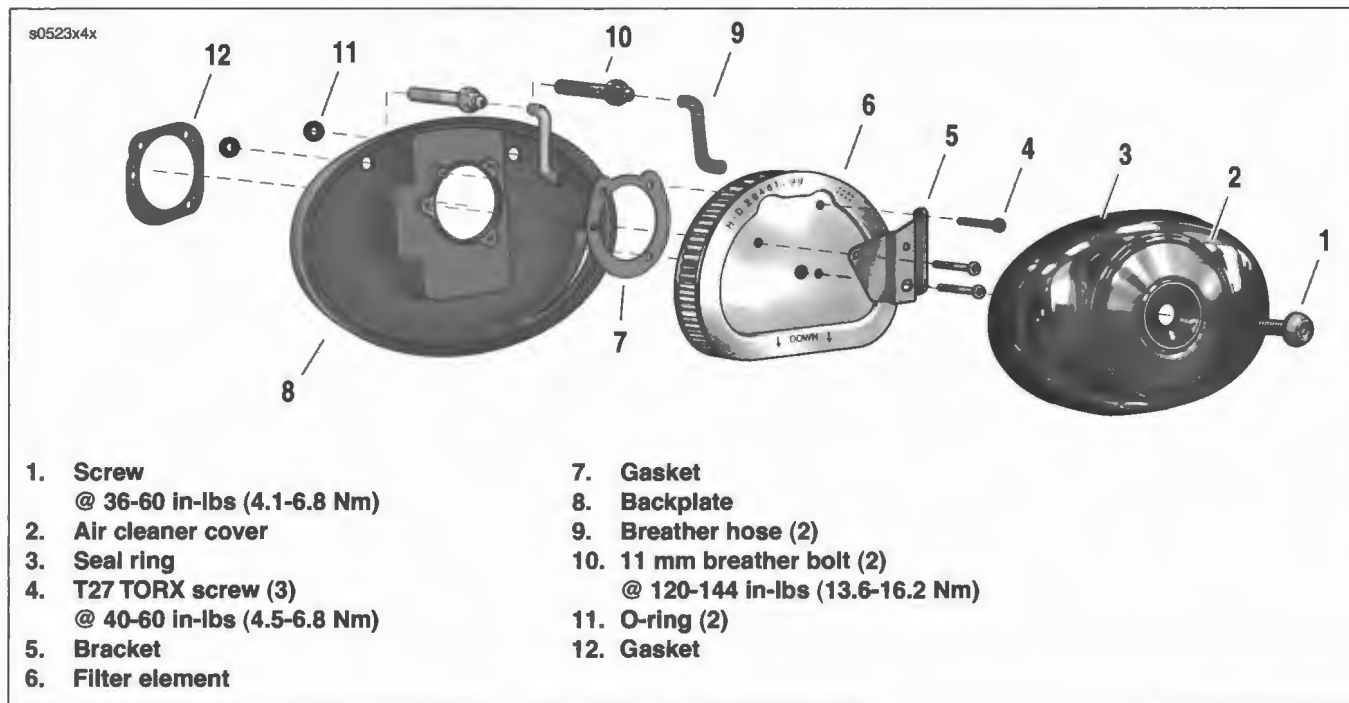

Figure 4-2. Air Cleaner Assembly
1. See Figure 4-2. Remove screw (1) and air cleaner cover (2).
2. Remove three TORX screws (4) and bracket (5) from filter element (6).
3. Gently pull both rubber breather tubes (9) from the back of the element. Remove filter element (6) and gasket (7).
5. Gently pull breather tubes (9) from breather bolts (10) on the backplate.
7. Inspect seal ring (3) for cracks or tears. Verify that it seals tightly to backplate. Replace as required.
8. Alternately back out both breather bolts (10) (metric) a few turns a time while pulling backplate (8) away from induction module.
9. Continue previous step until breather bolts are clear. Remove backplate (8), O-rings (11) and gasket (12). Discard gasket.
10. Wipe inside of air cleaner cover (2) and backplate (8) with damp cloth to remove dust.
1. See Figure 4-2. Position **new** gasket (12) and two **new** O-rings (11) on backplate. Insert two breather bolts (10) (metric) into backplate. Thread bolts loosely into each cylinder head. Final tighten bolts to 120-144 **in-lbs** (13.6-16.3 Nm).
2. Insert two breather tubes (9) into the holes in back of the filter element. Place the element back into position and attach breather tubes to breather bolts.
3. Install air filter element (6) and bracket (5).
- a. Make sure gasket (7) holes are aligned with backplate holes.
- b. Use three TORX screws (4) to secure bracket and filter element. Tighten to 40-60 **in-lbs** (4.5-6.8 Nm).
4. Install air filter cover (2).
- a. Apply a drop of LOCTITE THREADLOCKER 243 (blue) to threads of air cleaner cover screw (1).